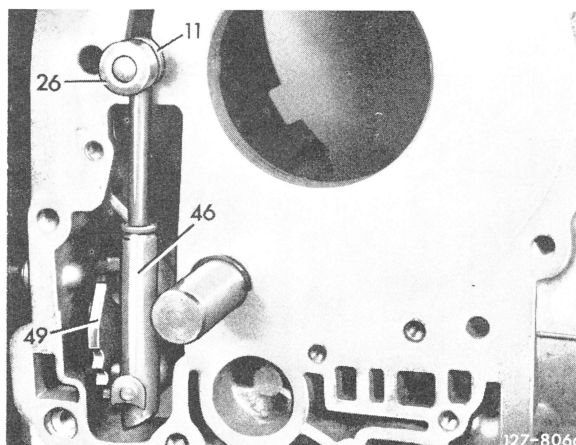

Fig. 34
**56** Plug-on elastic linkage (46) with washer (11) and roller (26) (Fig. 34).